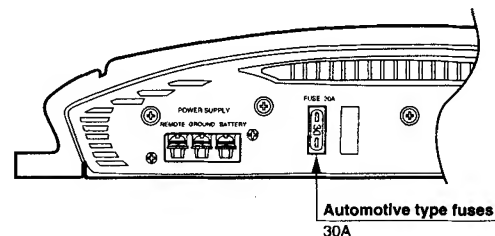

Figure 4 Rear Panel Layout of the Clarion APA4200G 4-Channel Car Audio Amplifier
- Depending on the type of system being installed, refer to the examples in Figures 4 through 9 for information on wiring and setting the operation mode.